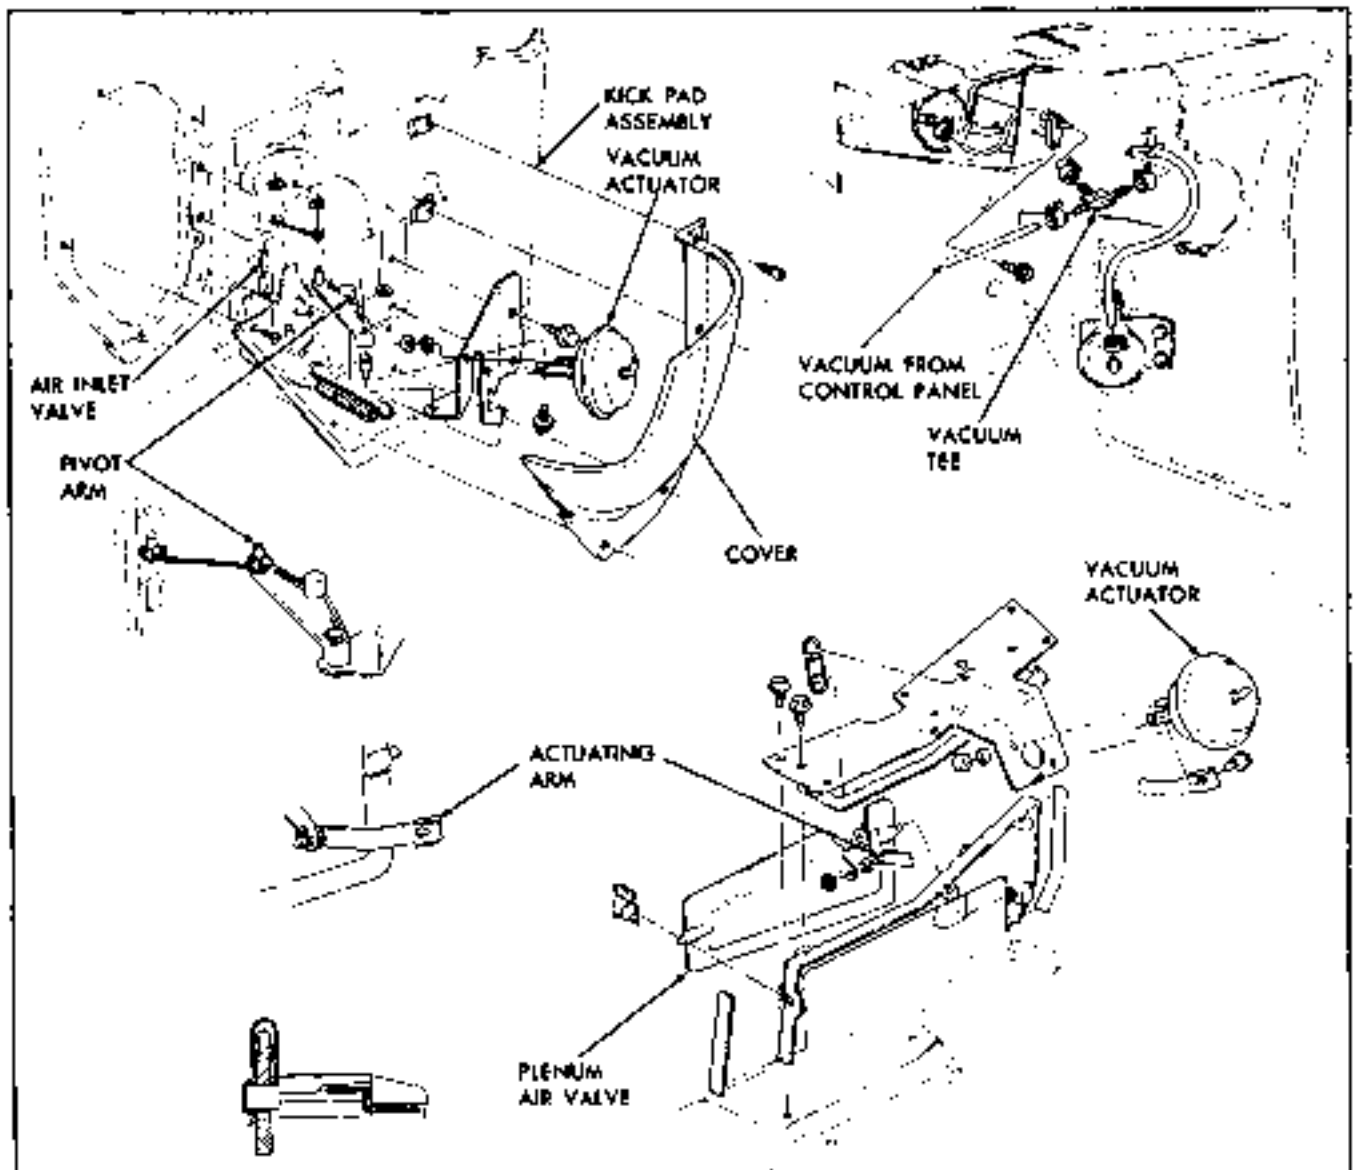

Fig. 1A-50 Firebird - Air Inlet and Plenum Air Valve
2. Remove heater case to cowl attaching nuts (Fig. 1A 51). On some models it may be necessary to drill a 1/8 inch hole in fender skirt to gain access to lower nut.